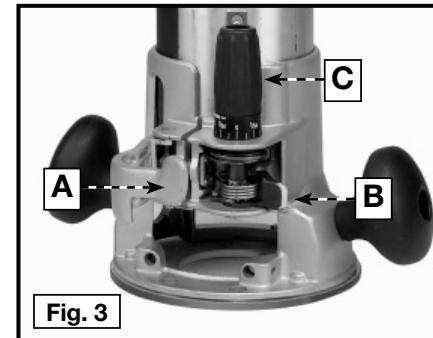

Fig. 3
1. Open the clamp (A) Fig. 3.
2. Pull the lever (B) and set the router on the workpiece. With the router flat and level, let the bit barely touch the workpiece.
3. Hold the lever (B) and turn the depth knob (C) until the zero aligns with the zero mark on the router base.
4. Release the lever (B). Make sure that the zero remains aligned with the zero mark.
5. Turn the knob (C) clockwise to the desired depth of cut.
6. Close the clamp (A).